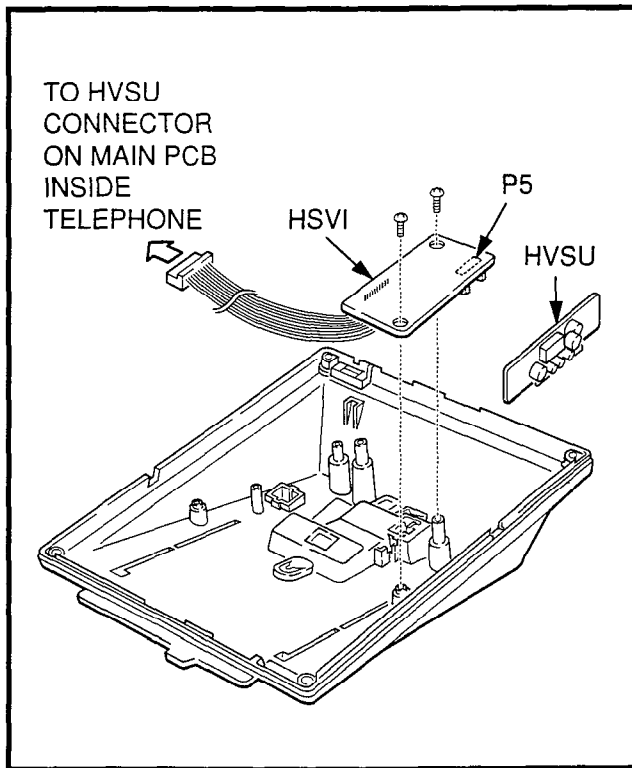

FIGURE 4-27—HVSU/HSVI INSTALLATION
- 2) Align the P5 connector on the HVSI PCB with its receptacle on the HVSU PCB (Figure 4-27). Apply firm, even pressure to the PCBs to ensure that the connectors mate properly (they click when mated properly).